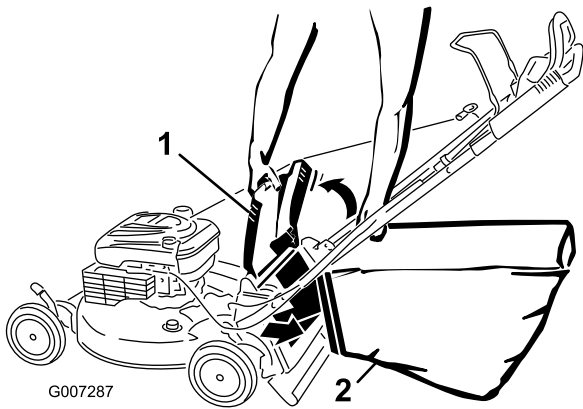

Figure 23
4. Hang the upper front edge of the bag on the notches (Figure 23).
4. Install the rear-discharge plug (Figure 23).